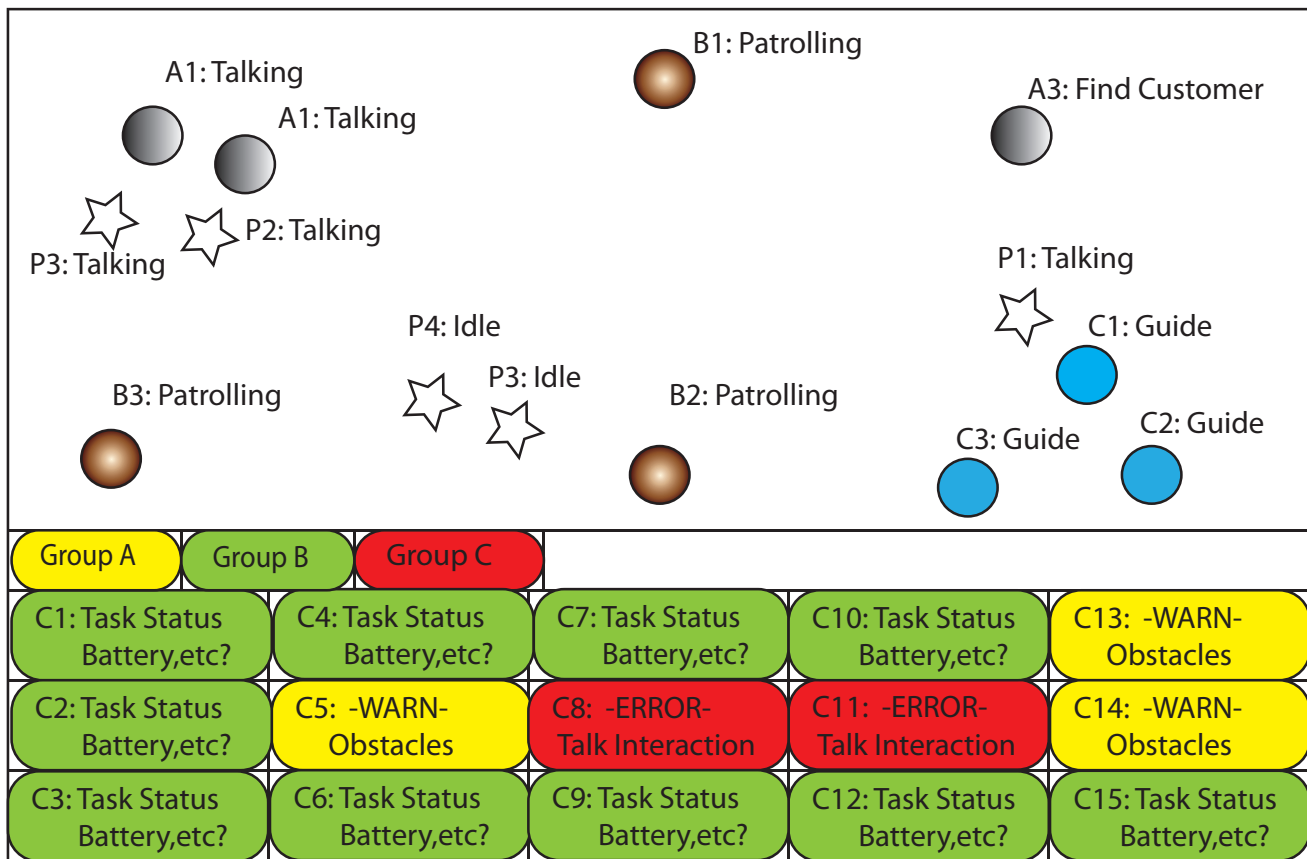
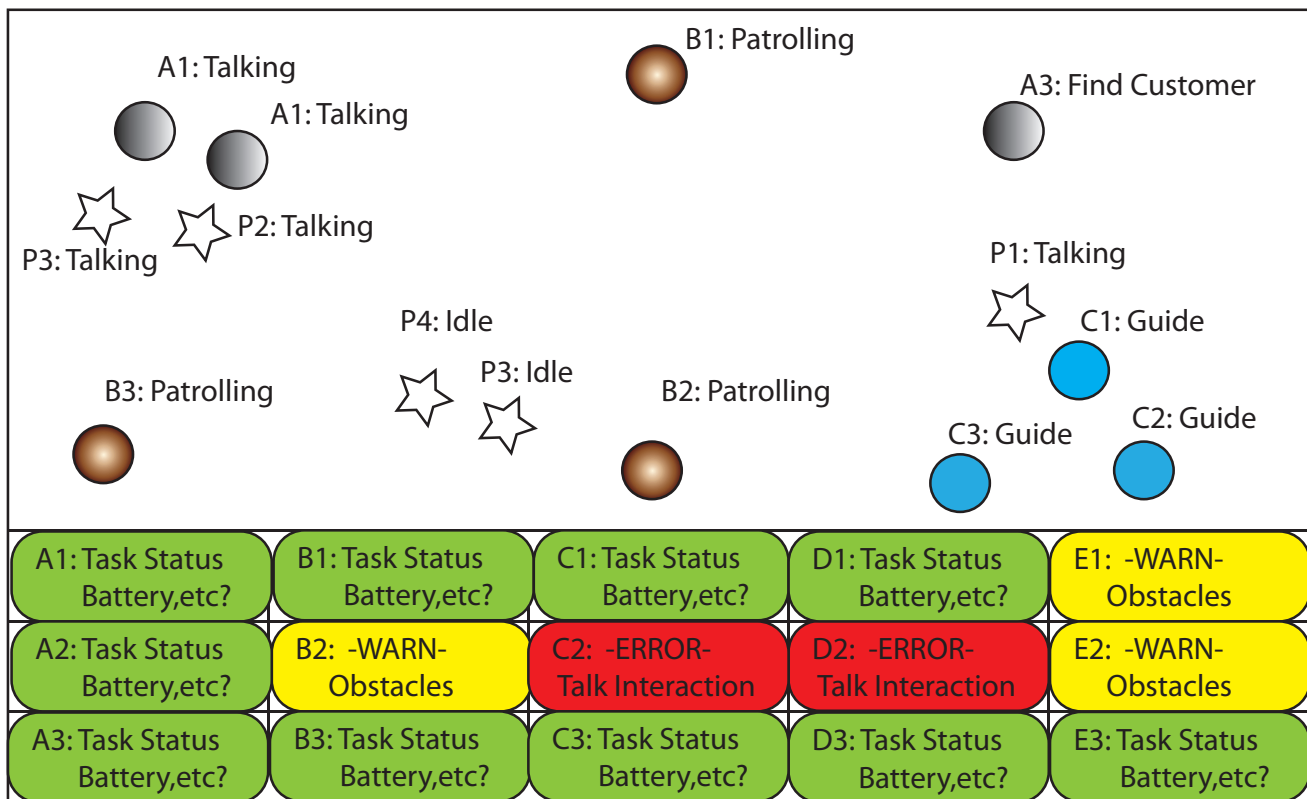

Fig. 1. Grouped operator view
Fig. 2. Non-grouped operator view
Fig. 1 and Fig. 2. present two possible GUI designs for the operator’s view. In both cases, circles represent robots and their different color represent to which group they belong to. In both cases, stars represent a person. Robots and persons would have their ID and current status represented in the map. Other simple status may be represented in later designs.
- 1) Grouping might allow more robots to be managed, but also adds clicks and complexity to the interface, as seen on Fig. 1. This might be good for large number of robots (≥ 20) and robots may be grouped based on task not geographical location.
- 4) A combination of 1 and 2 is shown in Fig. 1 and Fig. 2.
- b) contextual info like current topic of conversation, conversation partner's expressions, etc. (can also be shown at the map, as shown in Fig. 1 and Fig. 2.)